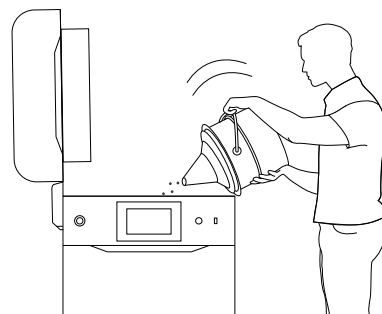

Fig. 2.5 Filling the print chamber with powder using a funnel.
5. Fill the Feed Bed with the desired powder. You may use the powder funnel provided in the Dedicated Powder Tools (fig. 2.5). Press **DONE**.